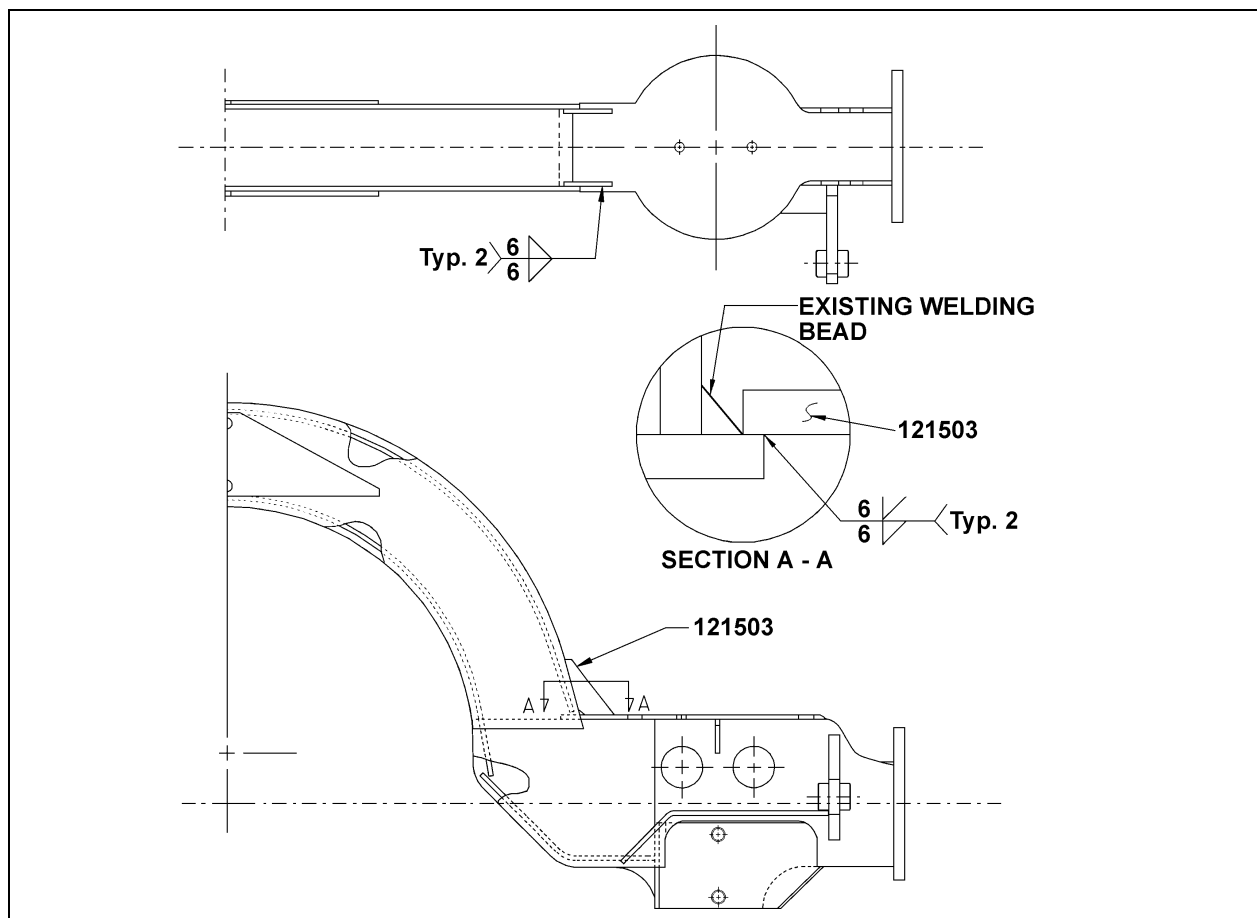

FIGURE 1 : TAG AXLE REINFORCEMENT CORNERS
7. Before proceeding with welding, check if cracks are present on tag axle, gouge or grind cracked areas to bare metal and reweld. Install reinforcement corners referring to figure 1 welding specifications.